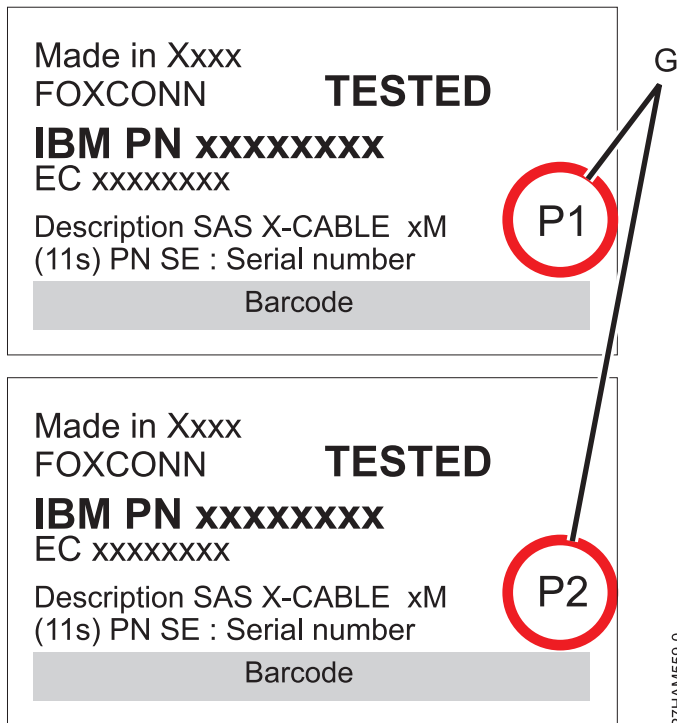

Figure 21. Labels for SAS adapter cables that show P1 and P2 identifiers
**Note:** Refer to Figure 21 on page 21 for label examples of these cable identifiers.
- The cable that plugs into independent SAS adapter 1 (C) contains a label with the P1 identifier (G). This adapter does not have access to any other independent adapter and has access only to drive bays D1 - D6 (D1 - D3 for the ESLL).
- The cable that plugs into independent SAS adapter 2 (D) contains a label with the P2 identifier (G). This adapter does not have access to any other independent adapter and has access only to drive bays D7 - D12 (D4 - D6 for the ESLL).
- The cable that plugs into independent SAS adapter 3 (E) contains a label with the P1 identifier (G). This adapter does not have access to any other independent adapter and has access only to drive bays D13 - D18 (D7 - D9 for the ESLL).
- The cable that plugs into independent SAS adapter 4 (F) contains a label with the P2 identifier (G). This adapter does not have access to any other independent adapter and has access only to drive bays D19 - D24 (D10 - D12 for the ESLL).